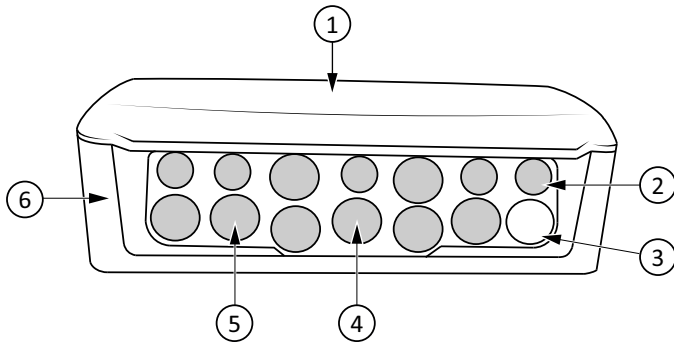

Figure 1 1: Lid, 2: Cable gland assembly, 3: LED, 4: Cable gland, 5: Soft part of cable gland, 6: Housing
1. Pierce a hole that is smaller than the cable diameter through the soft part of the cable gland (see Figure 1) with a circular object, such as a Phillips head screwdriver or an awl.
1. Mount the damper unit on a stable, vibration-free surface. It can be mounted horizontally with the lid up (No 1 in Figure 1) or vertically with the cable gland assembly (Pos. 2 in Figure 1) of the unit pointing down.